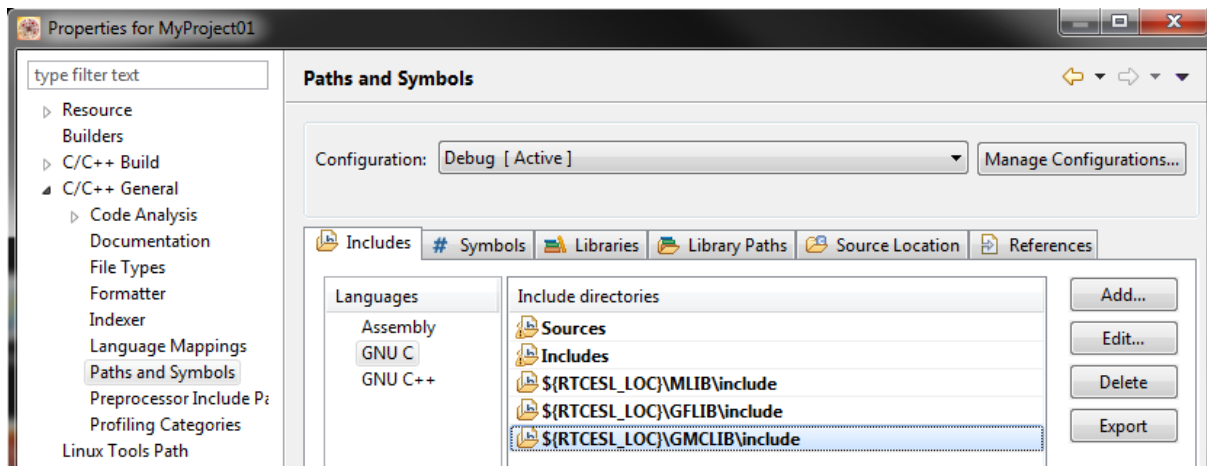

Figure 1-22. Compiler setting
19. In the right-hand dialog, select the Includes tab, and click GNU C in the Languages list. See Figure 1-22.
26. Click OK, and you will see the paths added in the list. See Figure 1-22. Click OK.